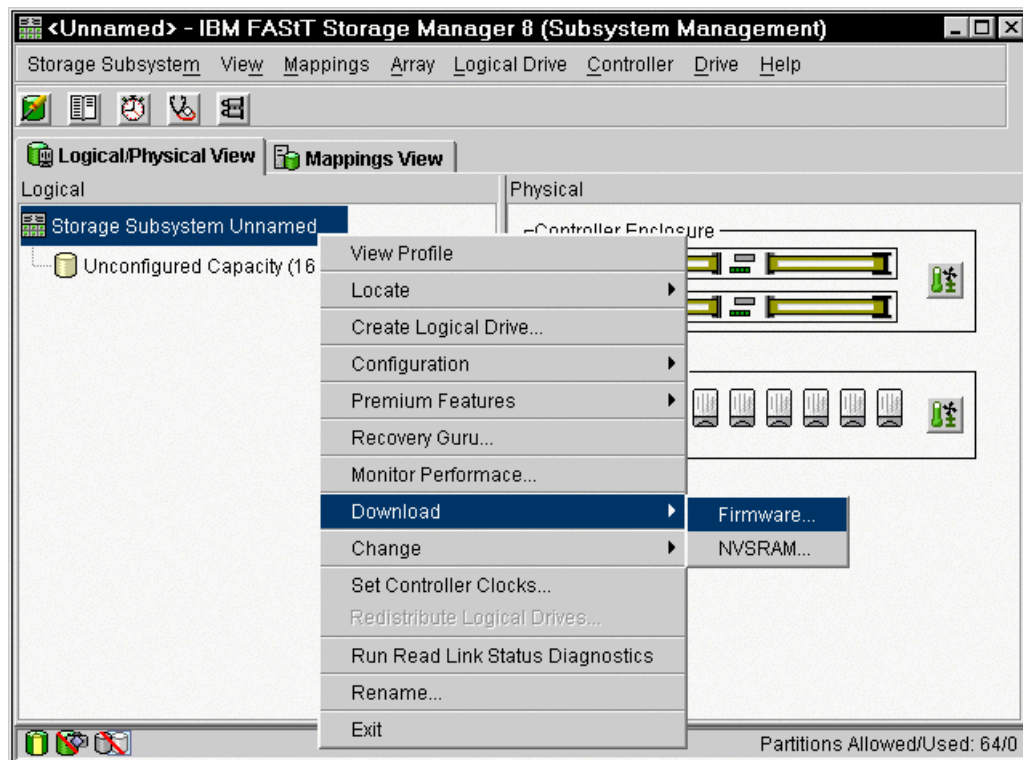

Figure 4-14 Subsystem Management window: Selecting Download-> Firmware
- a. Highlight the storage subsystem. From the Storage Subsystem menu, click **Download-> Firmware** (Figure 4-14).